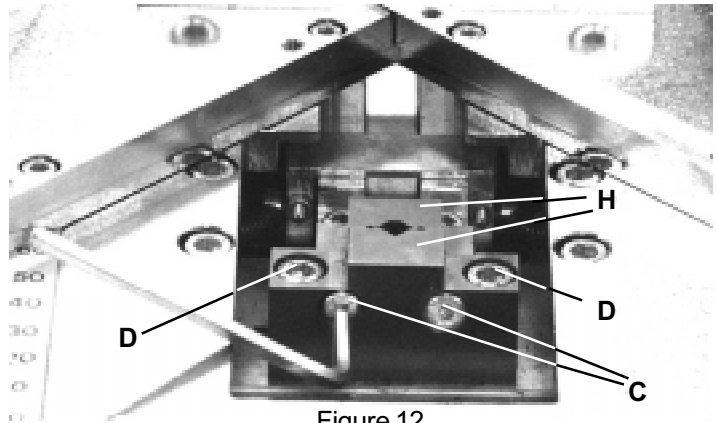

Figure 12
- b. Remove two screws (**C**). **DO NOT LOOSEN SCREWS (D)**. (Figure 12)
Caution: Be sure the tops of the two halves of the **Hammer Block (H)** in Figure 12 are perfectly flush before tightening **Screws (C)**.